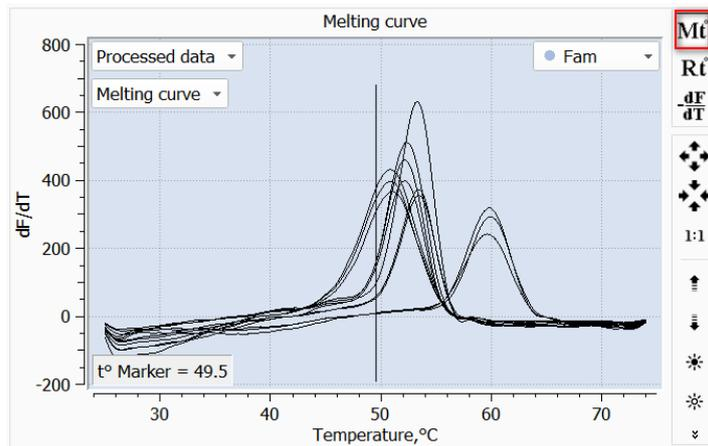

Figure 69 – An example of displaying a temperature marker in the graph area
- **Melting Marker** [Mt°] – show temperature marker – this option allows you to determine the temperature at the point of intersection of the marker line with the melting curve (fig. 69);